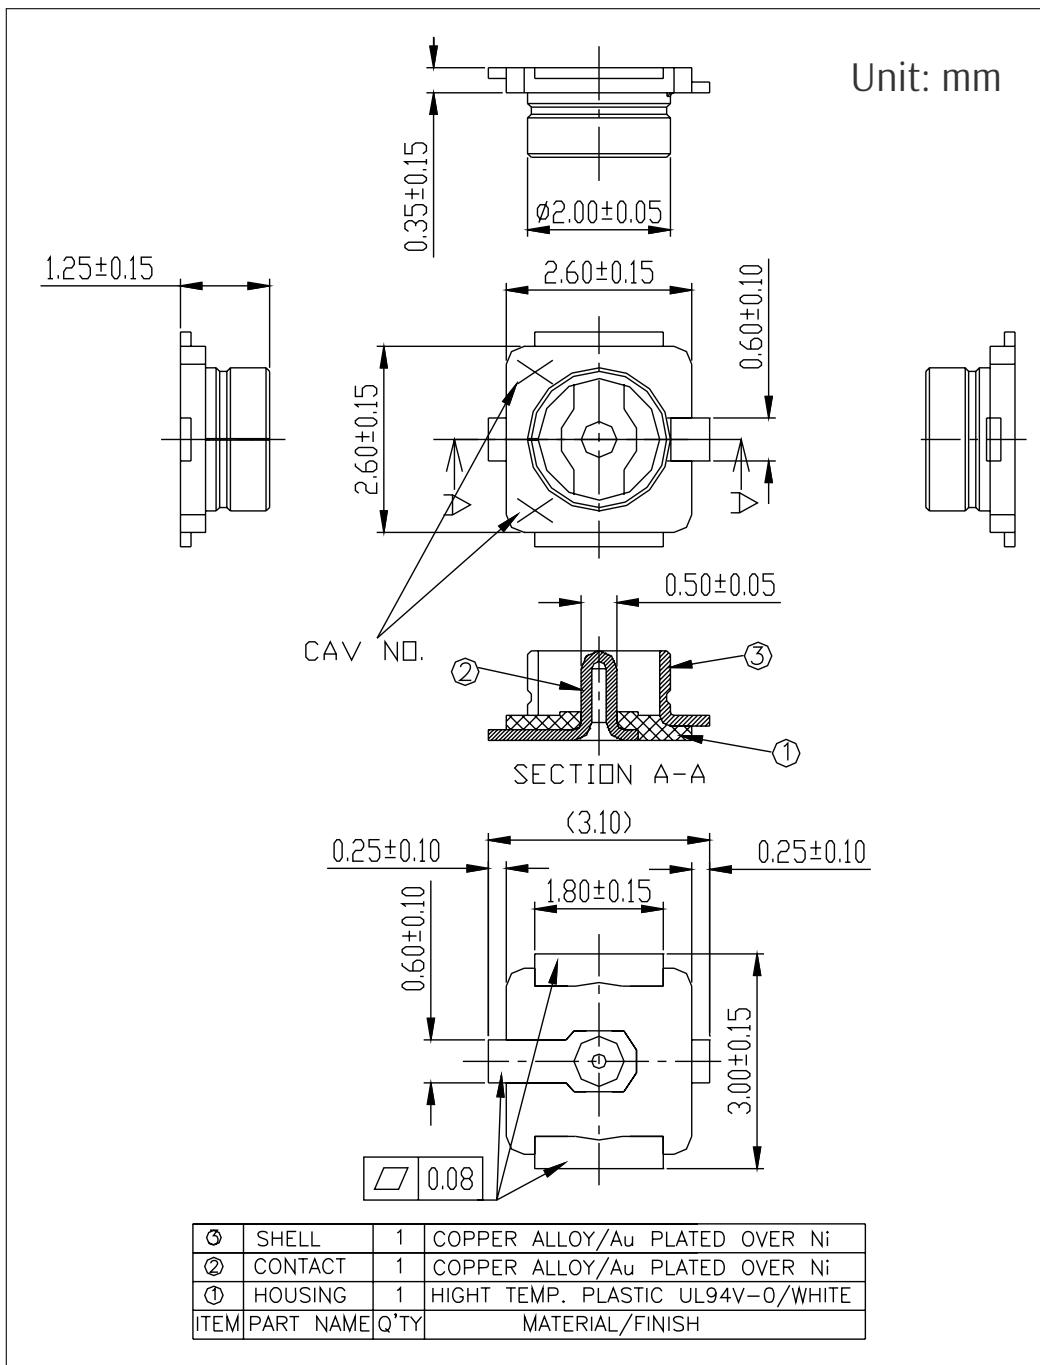

Figure 10: Dimensions of External Antenna Connector
ESP32-WROOM-32U uses the first generation external antenna connector as shown in Figure 10 *Dimensions of External Antenna Connector*. This connector is compatible with the following connectors:
- The connector matches the specifications shown in Figure 10 Dimensions of External Antenna Connector